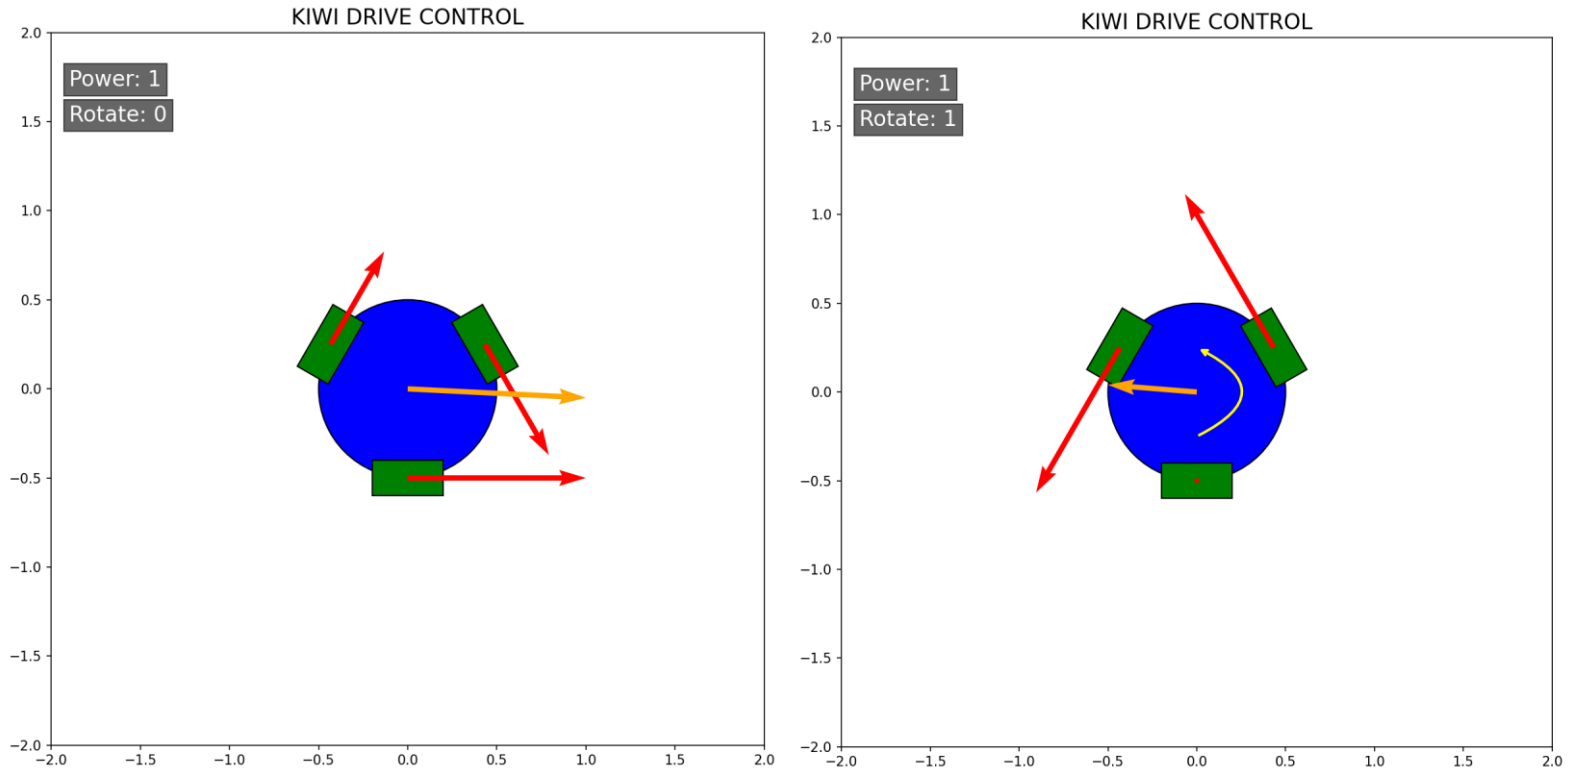

Figure 6: Two Examples of Complementary UI Program During Runtime
6. (Optional) Run the accompanying BLE python script (sim_ble.py) when the Controller is on. The program should be compatible with any device on Linux, MacOS or Windows, provided the device can support BLE connections and has both python and the python “Bleak” library installed (type `pip install bleak` in a terminal to do so). When the program is running, enter 0 into the terminal to exit. While running it will display the information the Controller is sending to the Robot in real time (refer to Figure 6).